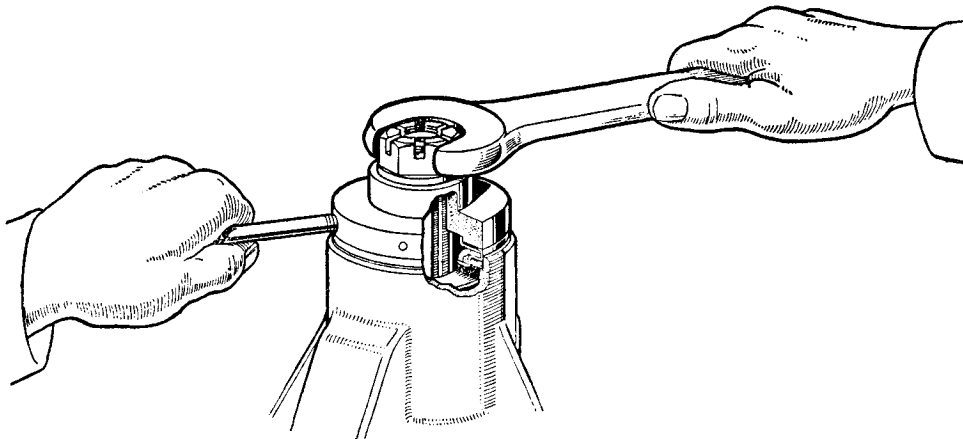

Fig. 19. Fitting the pinion oil seal.
- (1) Remove the drive pinion nut, washer and companion flange.
- (2) Install the oil slinger, and then fit the pinion oil seal assembly, using Tool No. SL.4P/B, as shown in Fig. 19. Place the oil seal with the dust excluder flange uppermost (not omitting the oil seal gasket used with the metal case type seal on later models), fit the installation collar, Tool No. SL.4P/B, and then tighten down the pinion nut and washer to drive the assembly home. Remove the installation collar.
- (3) Fit the companion flange, washer and pinion nut, tighten securely.
- (4) Fit the rear cover gasket, renewing it if required, and rear cover, securing same with set bolts and lock washers, not omitting the ratio tag which is attached by one of the set bolts.
- (5) Re-install the axle shafts and hub bearings, etc., as described on page H.10 under "Axle Shafts—Refitting".
- (6) Check that the drain plug is securely tightened, then fill with the appropriate quantity of one of the hypoid lubricants recommended on page H.8.
- (7) Replace the filler plug and check that the cover set bolts are tight.
- (8) Check for oil leaks at the cover, pinion oil seal and where the differential cap bolt holes break through.
- (9) Finally grease the hub bearings.